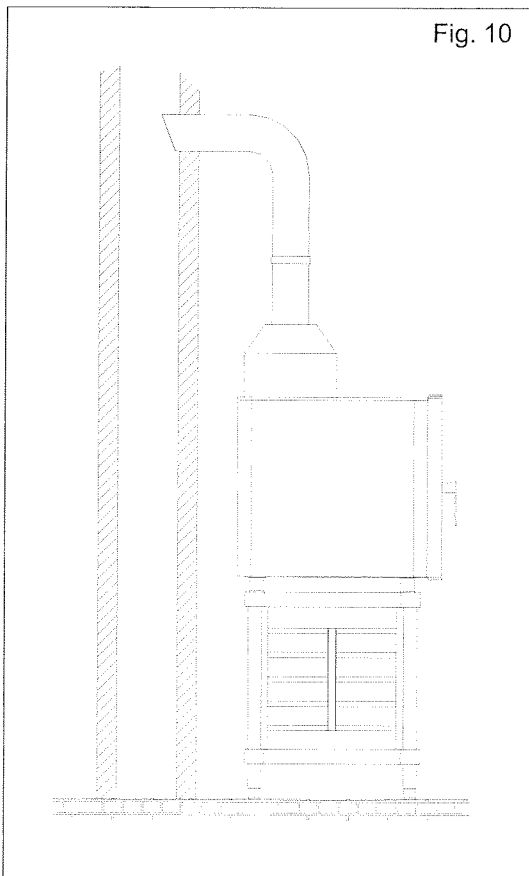

Fig. 10
- a natural conduit such as a naturally-drawing flue which is efficient enough to vent the combustion fumes directly to the outside (Fig. 10)